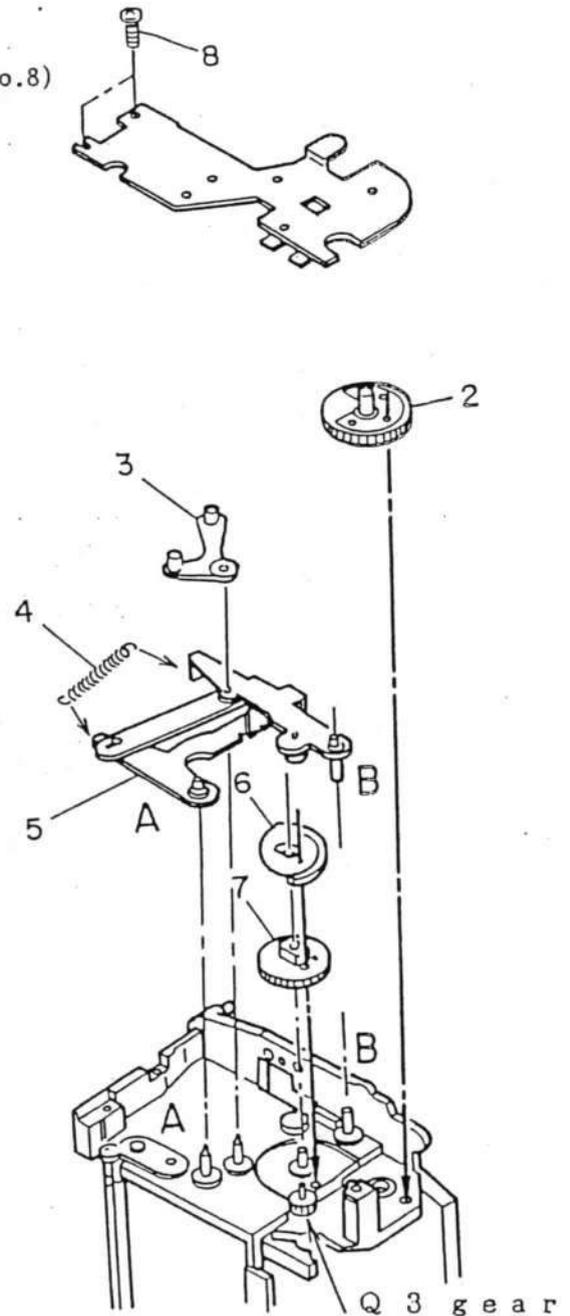

Fig.23
- (2) Set the Q CAM GEAR (No.7) and Q CAM (No.6) to the Mirror Box as shown in Fig. 23. (※ The setting holes must be engaged each other)
- (3) Hook the Q SPRING (No.4).
- (4) Set the DIAPHRAGM LEVER (No.5) to the Mirror Box.
- (5) Put the S LEVER (No.3).
- (6) Set the SW GEAR (No.2) to the Mirror Box.
- (7) Put the M SIDE PLATE then tighten two SCREWS (No.8)